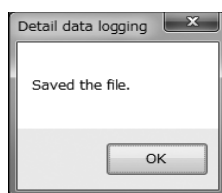

Fig.23
- ⑧ If you click the button with the square on the tool bar or "Chart and Recording" - "Recording" - "Stop" from menu, logging stops (terminating the writing process on a file) and the file is completed. Click "OK" on the following message box (Fig. 23).